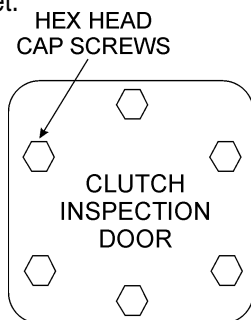

Figure 12. Clutch Inspection Door
3. To gain access to the "**clutch inspection door**" remove the six 12 mm (1/2-inch) cap screws (Figure 12) and lock washers that secure the clutch inspection door. Remove door and gasket.